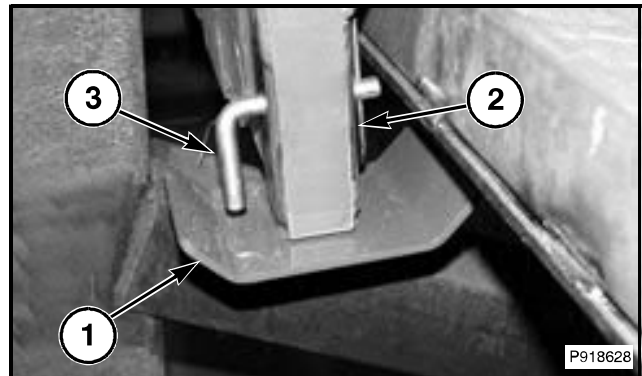

FIG. 5
FIG. 5: The parking stands (1) are used to support the header when disconnecting the header from the machine. The stands hold the header in the correct position when removing and attaching the header to the machine.